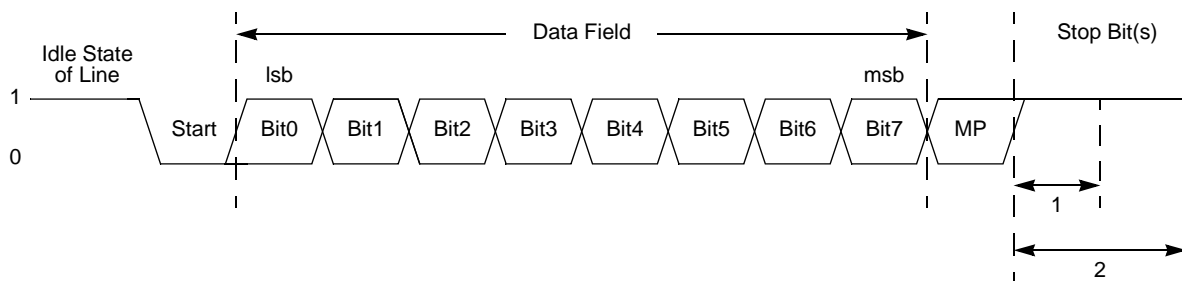

Figure 13. UART Asynchronous MULTIPROCESSOR Mode Data Format
The UART has a MULTIPROCESSOR (9-bit) mode that uses an extra (9th) bit for selective communication when a number of processors share a common UART bus. In MULTIPROCESSOR mode (also referred to as 9-Bit mode), the multiprocessor (MP) bit is transmitted immediately following the 8-bits of data and immediately preceding the Stop bit(s) as illustrated in Figure 13. The character format is: